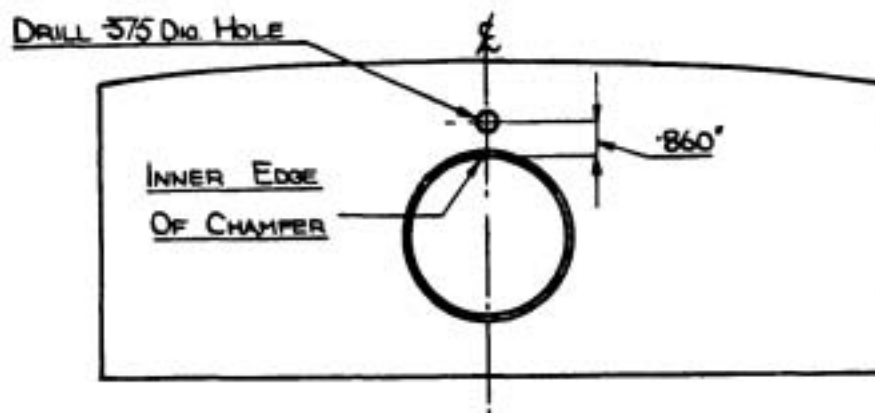

FIG. 2.
5. Drill the wooden fascia panel as shown in Fig. 2.